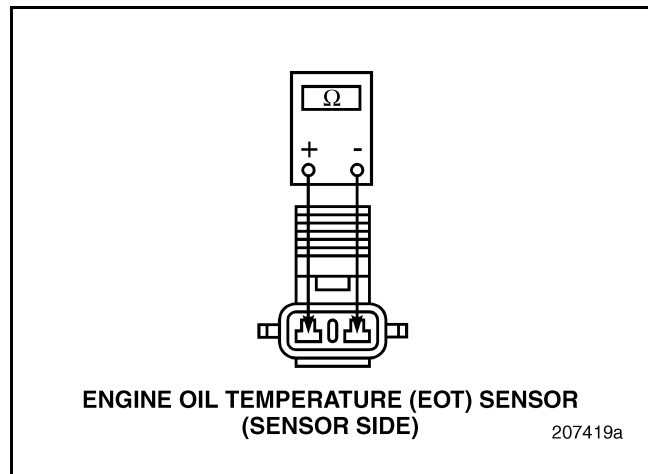

Figure 281
3. Measure the resistance across the pins of the EOT Sensor with the engine oil temperature between 32° and 194°F (0° and 90°C) (see Figure 281).